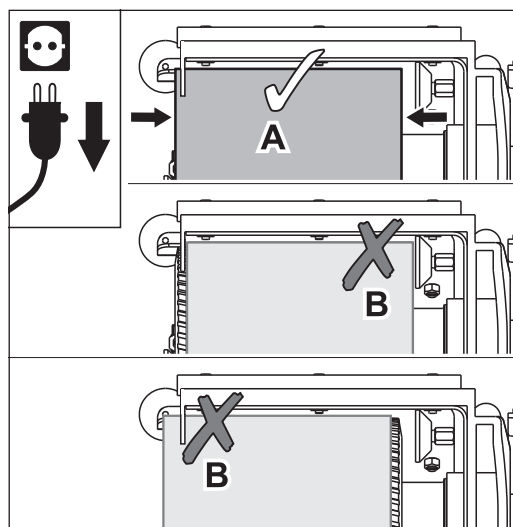

Fig. 16 Position the sanding belt so that it evenly covers the sanding drum (A). Avoid position B without fail (RISK OF FIRE)!
- 11 Position the sanding belt so that it evenly covers the sanding drum (Fig. 16, A).
Position B of the sanding belt in Fig. 16 provoke sparking during sanding! Avoid this without fail!